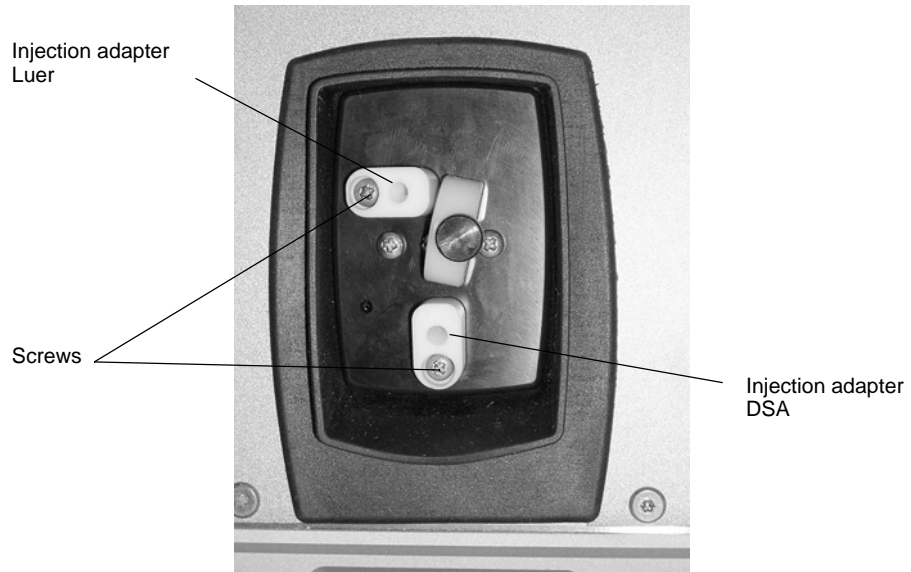

Fig. 7 - 2 Mounted injection adapters
3. Carefully insert the injection adapter DSA into the sample inlet opening of the filling device until the tip of the adapter reaches the opening of the measuring cell (see Fig. 7 - 1).